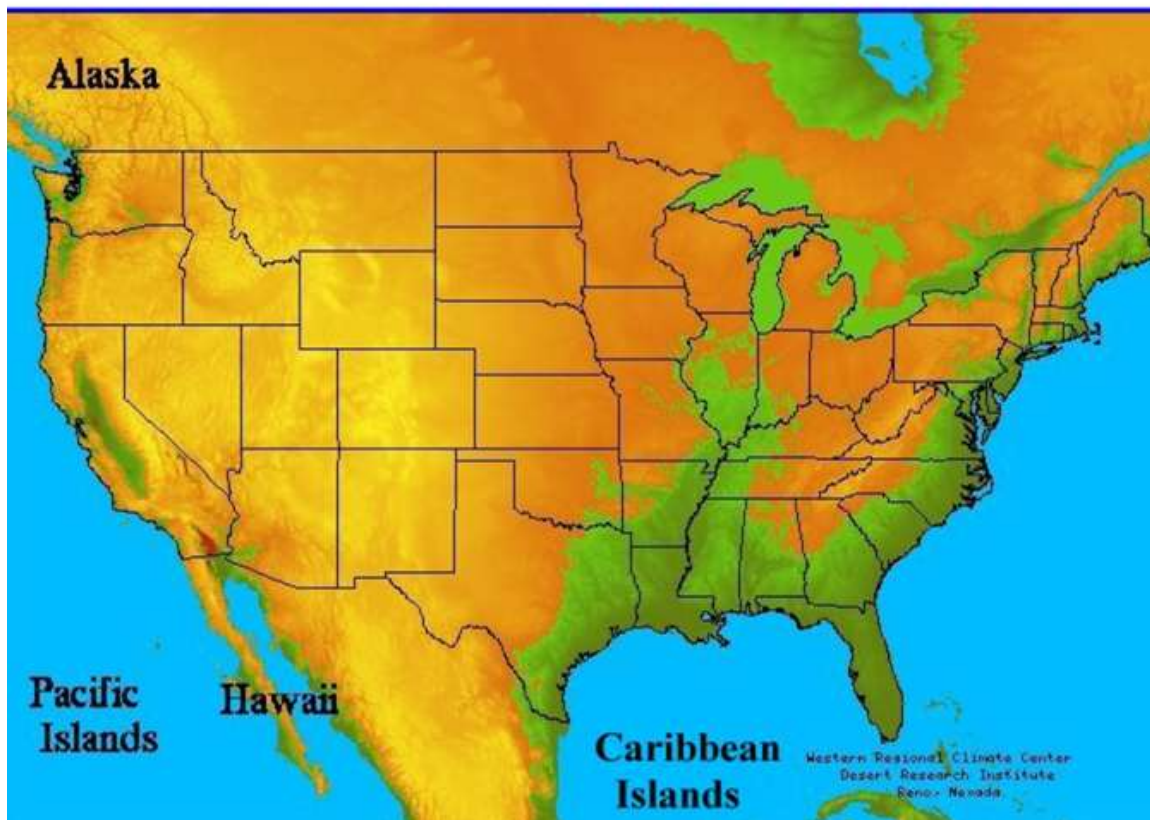

Figure 3-28—WRCC home page for hourly RAWS data.
- 1) Go to the WRCC hourly RAWS web page: <http://www.raws.dri.edu/> (fig. 3-28).